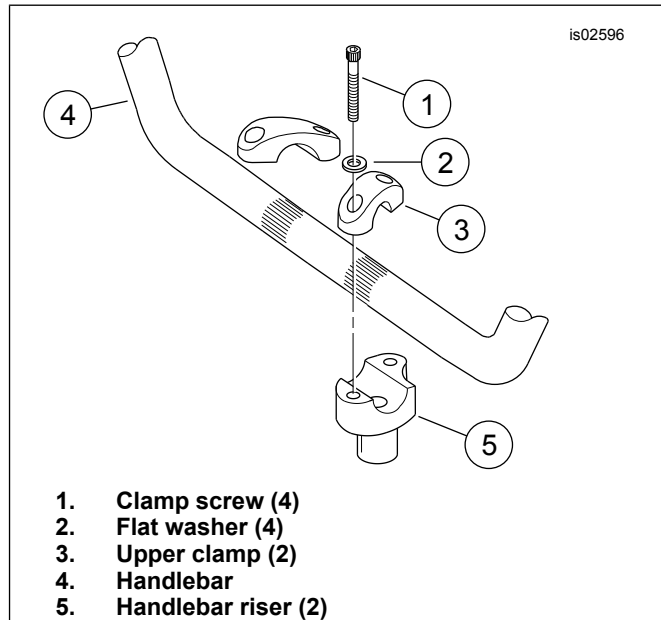

Figure 1. Handlebar Clamps and Risers
12. See Figure 1. Remove and retain the screws (1) and flat washers (2) that secure the handlebar upper clamps (3) to the risers (5). Remove and retain the clamps. Remove the handlebar (4) from the motorcycle.